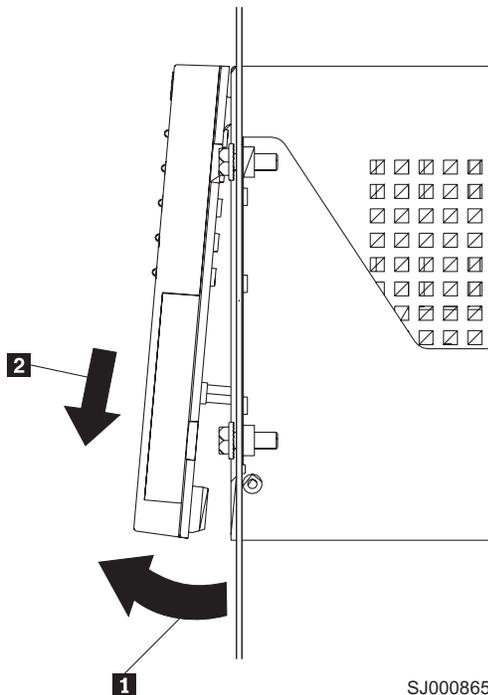

Figure 8. Removing the controller-unit bezel (machine types 3552 [FAST500] and 1742 [DS4400 and DS4500])
1. Remove the front bezel from the storage subsystem, as shown in Figure 8. Carefully pull the bottom of the bezel out **1** to release the pins. Then slide the bezel down **2**.